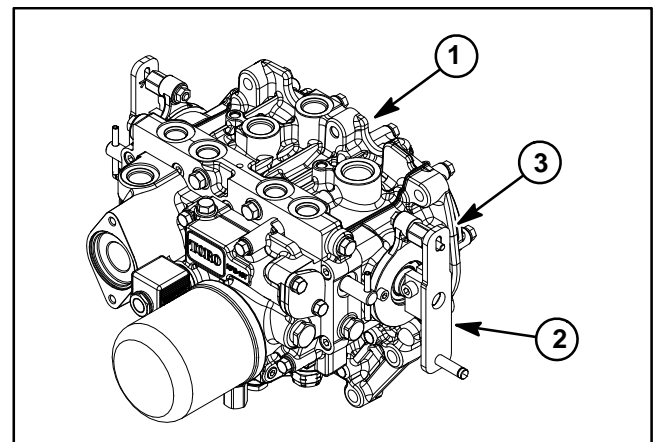

Figure 63
A. Align transmission control arm with transmission side cover with a 3/8" alignment pin (Fig. 63). This ensures that transmission is in the neutral position.